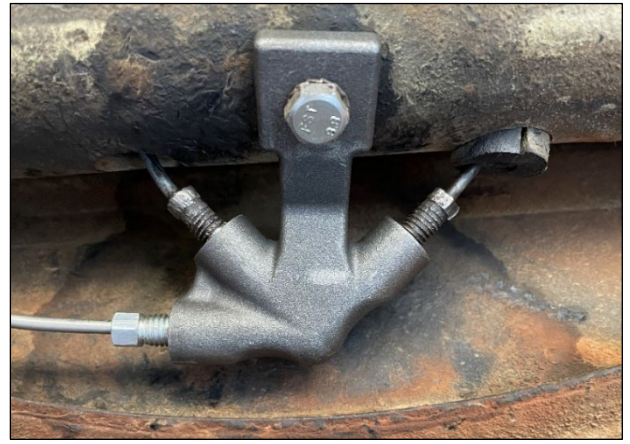

Fig. 2-9 Rear Brake Line Union
The rear brake line union, shown in Fig. 2-9 at right, connects the brake line from the brake master cylinder to the brake lines to the rear wheel cylinders. In the figure, the brake line at the left comes from the master cylinder, the brake line at upper left connects to the left rear wheel cylinder, and the brake line at upper right connects to the right rear wheel cylinder. The union is bolted to the bottom of the rear axle tube with the bolt shown, and sits just above the forward edge of the fuel tank. (*Note that the fuel tank has to be removed to gain access to the union.*)
The brake lines leading to the rear wheel cylinders pass from the union, into openings in the rear axle tube (partially showing in the figure), along the inside of the axle tube, exiting the axle tube at the rear suspension arm bearings, then follow the suspension arms to the wheel cylinders. (Fig. 2-9 was taken after the writer had replaced the brake line between the brake master cylinder and the union. The originally fitted (1974) brake line had corroded through from the inside and produced a fluid leak in the line about a metre from the master cylinder. BTW, the red colour in the figure is not rust. It's Raid Cape York dust!
a. Place the master cylinder securely in a **soft-jawed** vice, clamped by the side faces of the mounting fixture (indicated in Fig. 2-9), with the master cylinder in a horizontal, normal-way-up position. Don't clamp the master cylinder by the body (to prevent possible deformation). **Check the body is horizontal using a spirit level.**